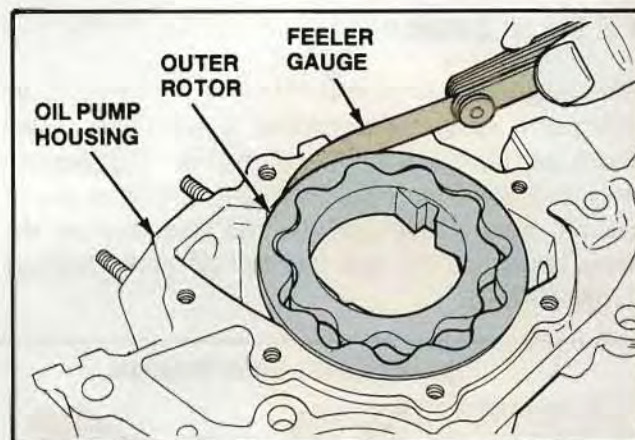

Figure 82. Radial Clearance
3. With the rotor assembly installed in the housing, measure the radial clearance between the outer rotor and the housing (Fig. 82).